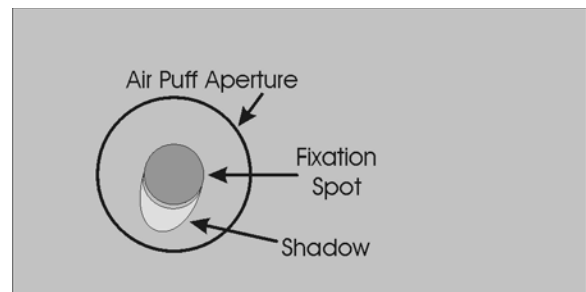

Figure CT-4. Fixation Spot Shadow
3. Look through the airtube assembly and tighten the circuit board when the green spot is round, centered and does not have a reflection. Refer to Figure CT-4.